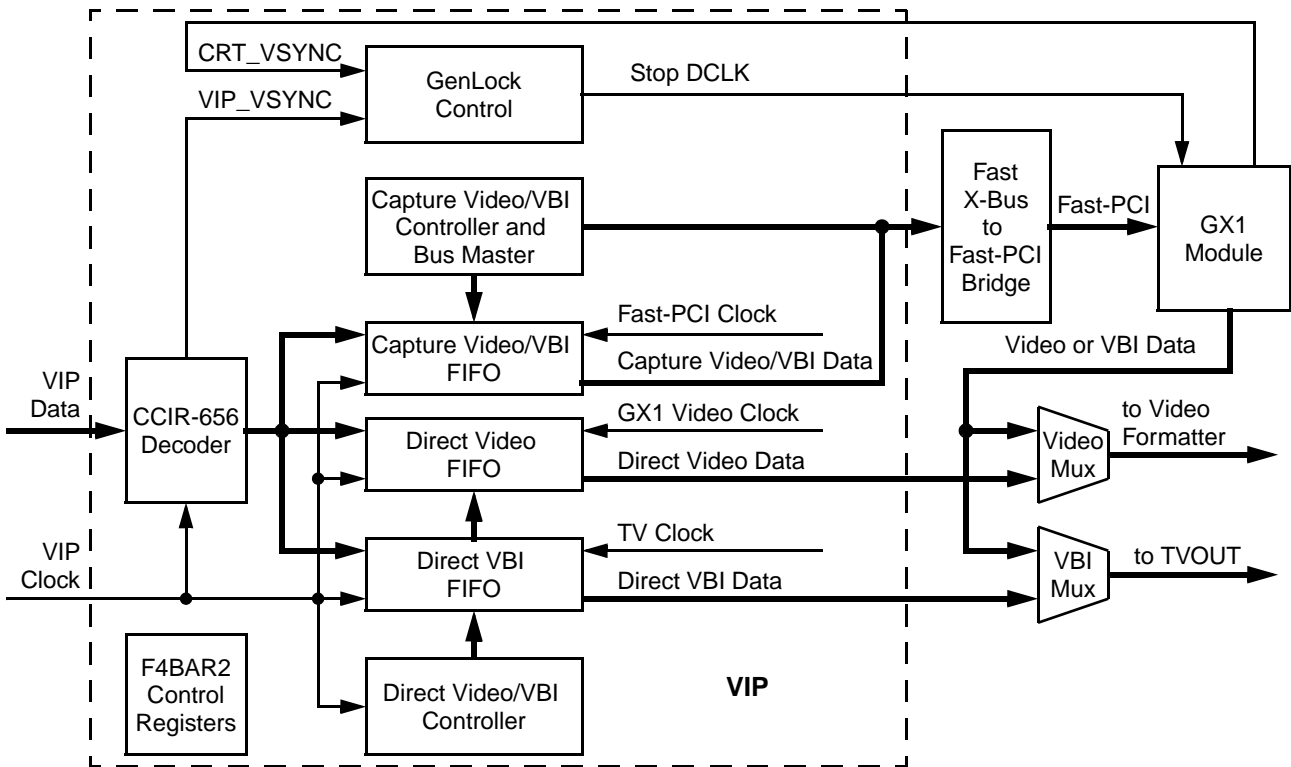

Figure 7-4. VIP Block Diagram
The VIP block is designed to interface the SC1200/SC1201 processor with external video processors (e.g., Philips PN1300 or Sigma Designs EM8400) or external TV decoders (e.g., Philips SAA7114). It inputs CCIR-656 Video and raw VBI data sourced by those devices, decodes the data, and delivers the data directly to the Video Formatter (Direct Video/VBI modes) or to the GX1 module's Video Frame Buffer (Capture Video/VBI modes). Figure 7-4 shows a diagram of the VIP block.
2) The altered VBI data can be sent to the TVOUT block of the Video Processor via the video frame buffer or graphics frame buffer. See VIP block diagram (Figure 7-4 on page 335). The Closed Captioning data could be altered and then sent out this way. One reason to capture the Closed Captioning data would be to do a language conversion. If the VIP block is in Capture Video mode then this option is not possible because the video frame buffer can be used for sending video or VBI, but not simultaneously.